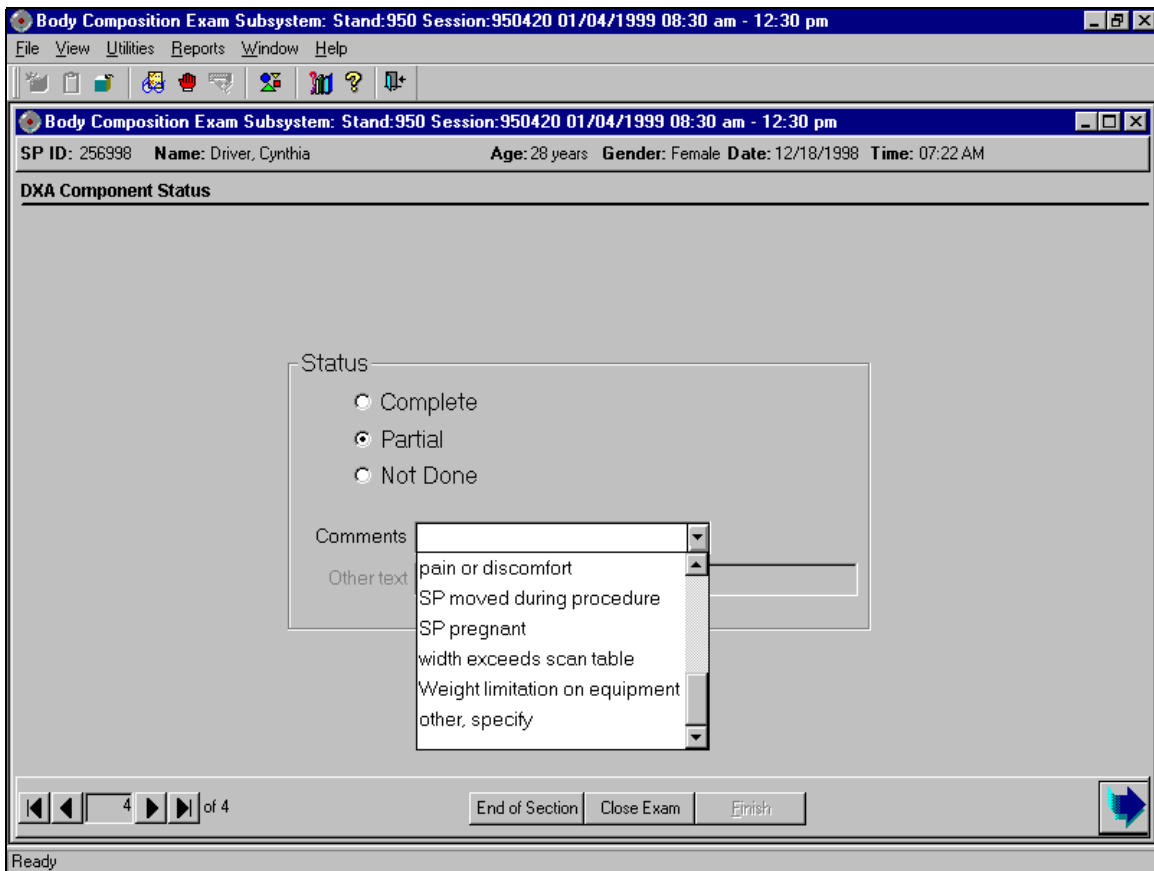

Figure 4-30. DXA component status (3)
- The final comments listed in the box are shown in Figure 4-30: